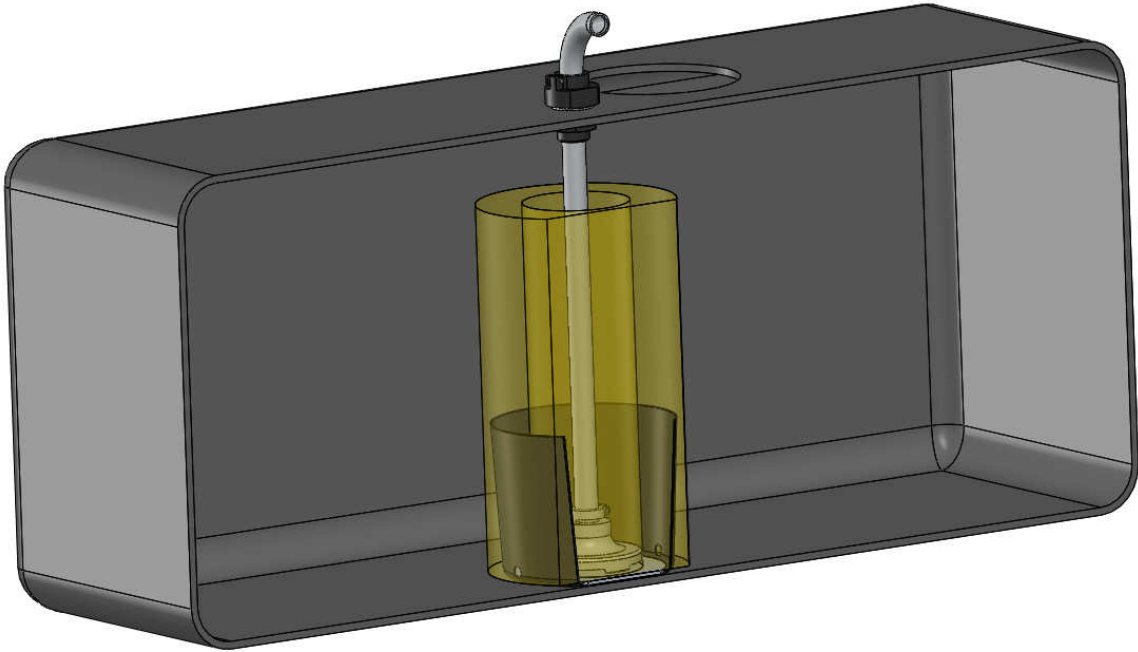

FIGURE 1-5
6. Push the pickup tube assembly down into the baffle until the filter rest on the bottom plate. Position the outlet toward the middle of the vehicle and tighten the tube clamp on top of tank. **FIGURE 1-5**